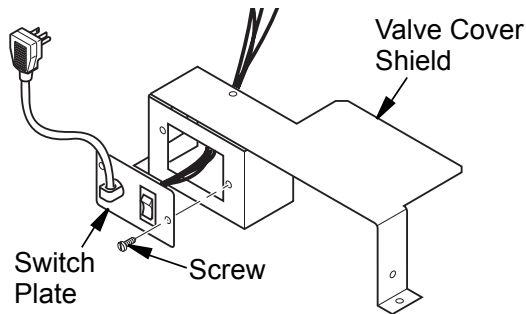
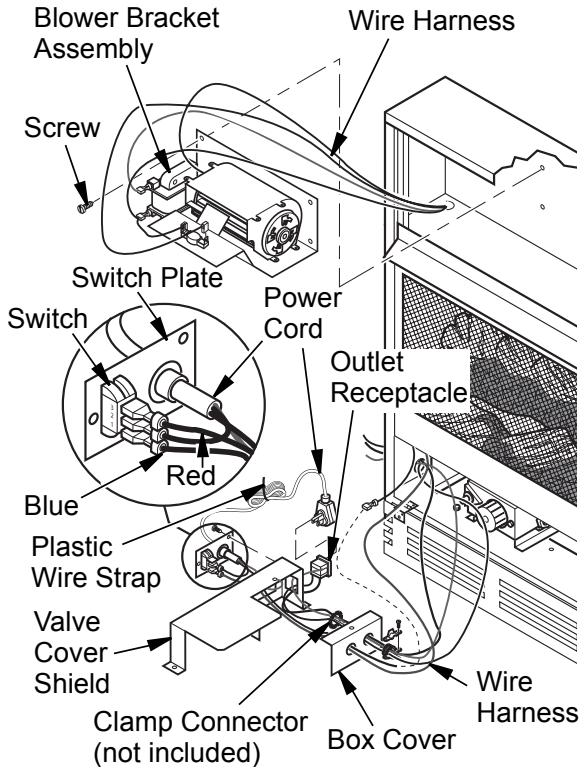

Figure 18 - Installing Switch Plate to Valve Cover Shield
Figure 20 - Installing Blower Bracket Assembly
5. Plug power cord to the outlet receptacle (not provided) as shown in **Figure 18**. Wind the extra power cord and tie it up with the plastic wire strap (see **Figure 20, Page 18**). Set the power cord bundle between the burner bracket and outer casing, away from the burner.